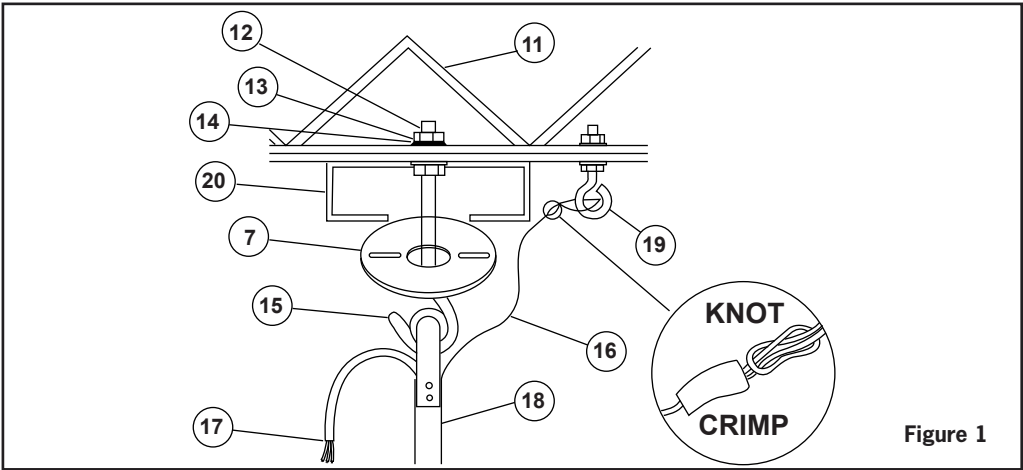

Figure 1
4. To reduce the risk of personal injury, install the safety cable (per Fig. 1).
- Using Machine Threaded Hooks for Steel Frame Ceiling (Fig. 1)